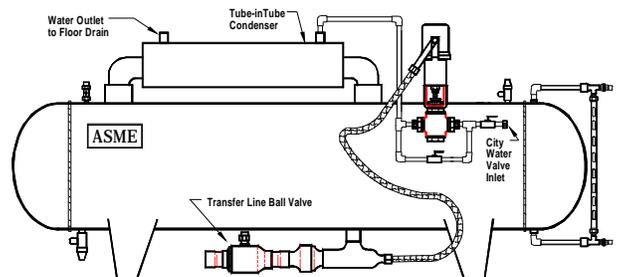

Figure 5. - Water Connections
1. Using 3/4" copper tubing, connect city water source to SavAll™ System water valve inlet connection (see Figure 5).
2. Using 3/4" copper tubing, run outlet drain line from Tube-in tube condenser outlet fitting to nearest floor drain or other suitable drain (see Figure 5.).